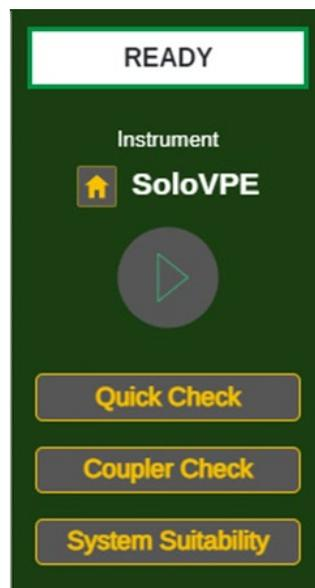

Figure 15. Validation Check App: Instrument Control panel.
1. Press the Coupler Check button on the Instrument Control panel in the Validation Check app, as seen in Figure 15.